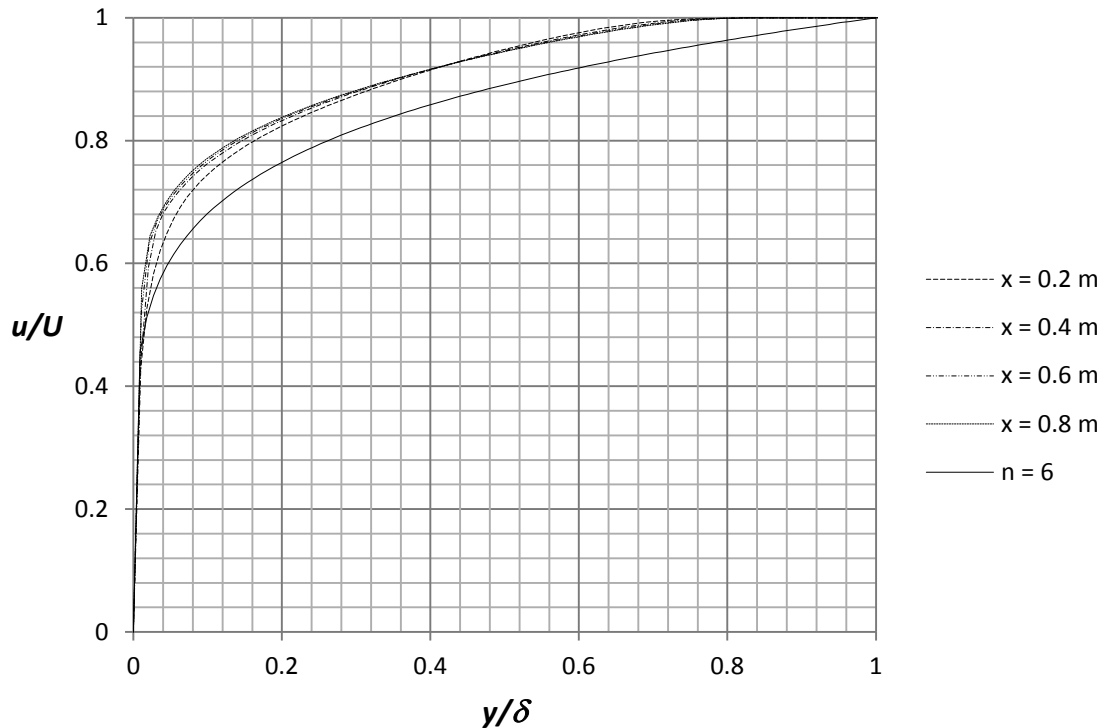

Figure 2.31 The same profiles as in figure 2.30a) compared with one-sixth power law for turbulent profile
33. Place the file “**graph 2.31**” on the desktop. Repeat step 24 and choose the sketch $x = 0.2, 0.4, 0.6, 0.8$ m and check the box for **Velocity (X)**. Rename the xy-plot to **Comparison with One-Sixth Power Law**. An Excel file will open with Figure 2.31. In figure 2.31 we compare the results from Flow Simulation with the turbulent profile for $n = 6$. The power-law turbulent profiles suggested by Prandtl are given by